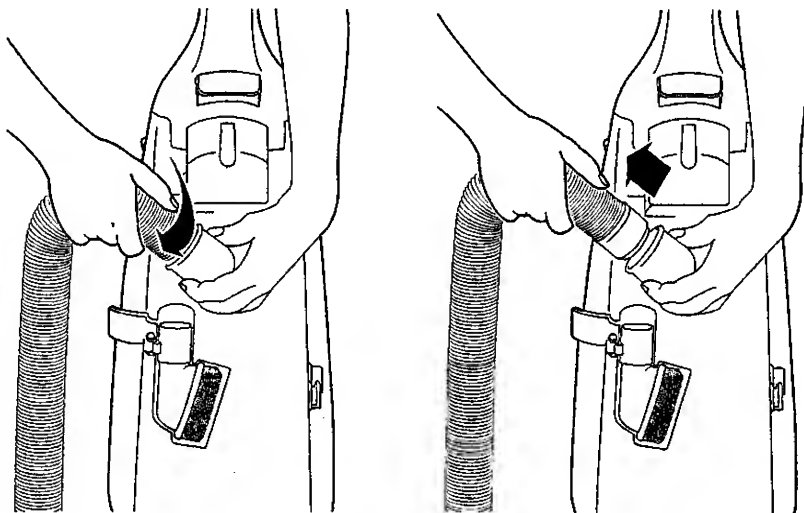

Fig. 1
Central Filter (Fig. 1)
Remove the hose from the suction inlet, push the small clips inwards, turn the hose right and pull it upwards (Fig. 1). Clean any obstruction from the hose and/or suction inlet using a blunt implement, taking care not to damage the hose.
1. Remove the 4 screws from the base plate and lift it off. (Fig. 1)
1. Remove the base plate, release the head-light assembly and lift it up. (Fig.1)